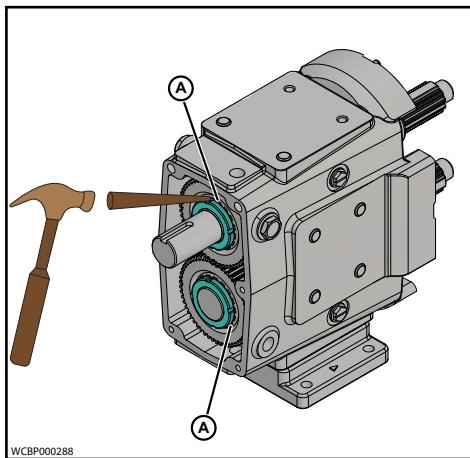

Figure 94 - Bend Locking Tab
7. Bend the locking tab (Figure 94, item A) on the lock washers into the locking nut slots, securing the gear locknut into place